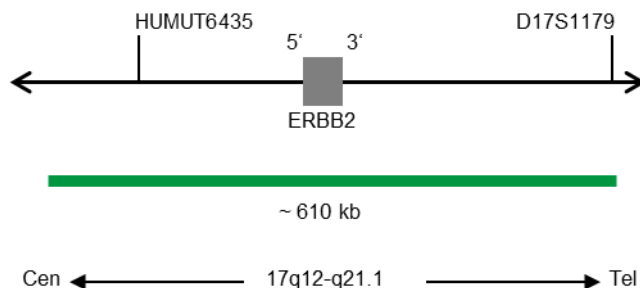

Fig. 1: ERBB2 Probe map (not to scale)
- ZyGreen (excitation 503 nm/emission 528 nm) labeled polynucleotides (~5.0 ng/μl), which target sequences mapping in 17q12-q21.1* (chr17:37,572,531-38,181,308) harboring the ERBB2 gene region (see Fig. 1).